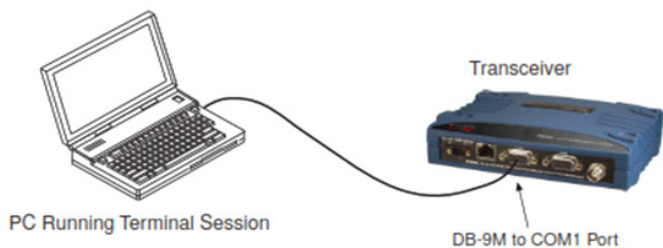

Figure 6. Setup for PC Configuration
5. **Set the radio's configuration.** Connect a PC to the radio's COM1 port as shown in Figure 6. A straight-thru cable may be used for this connection.